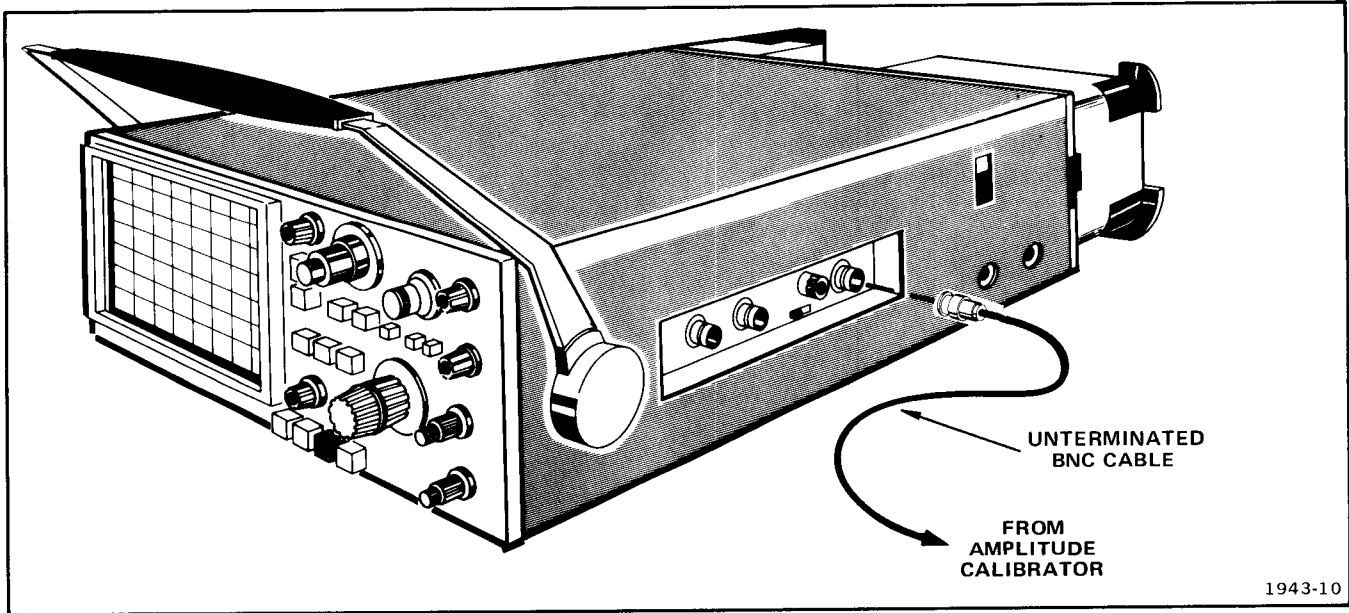

Fig. 5-10. Equipment setup.
a. Connect equipment to EXT TRIG or HORIZ INPUT as shown in Fig. 5-10.